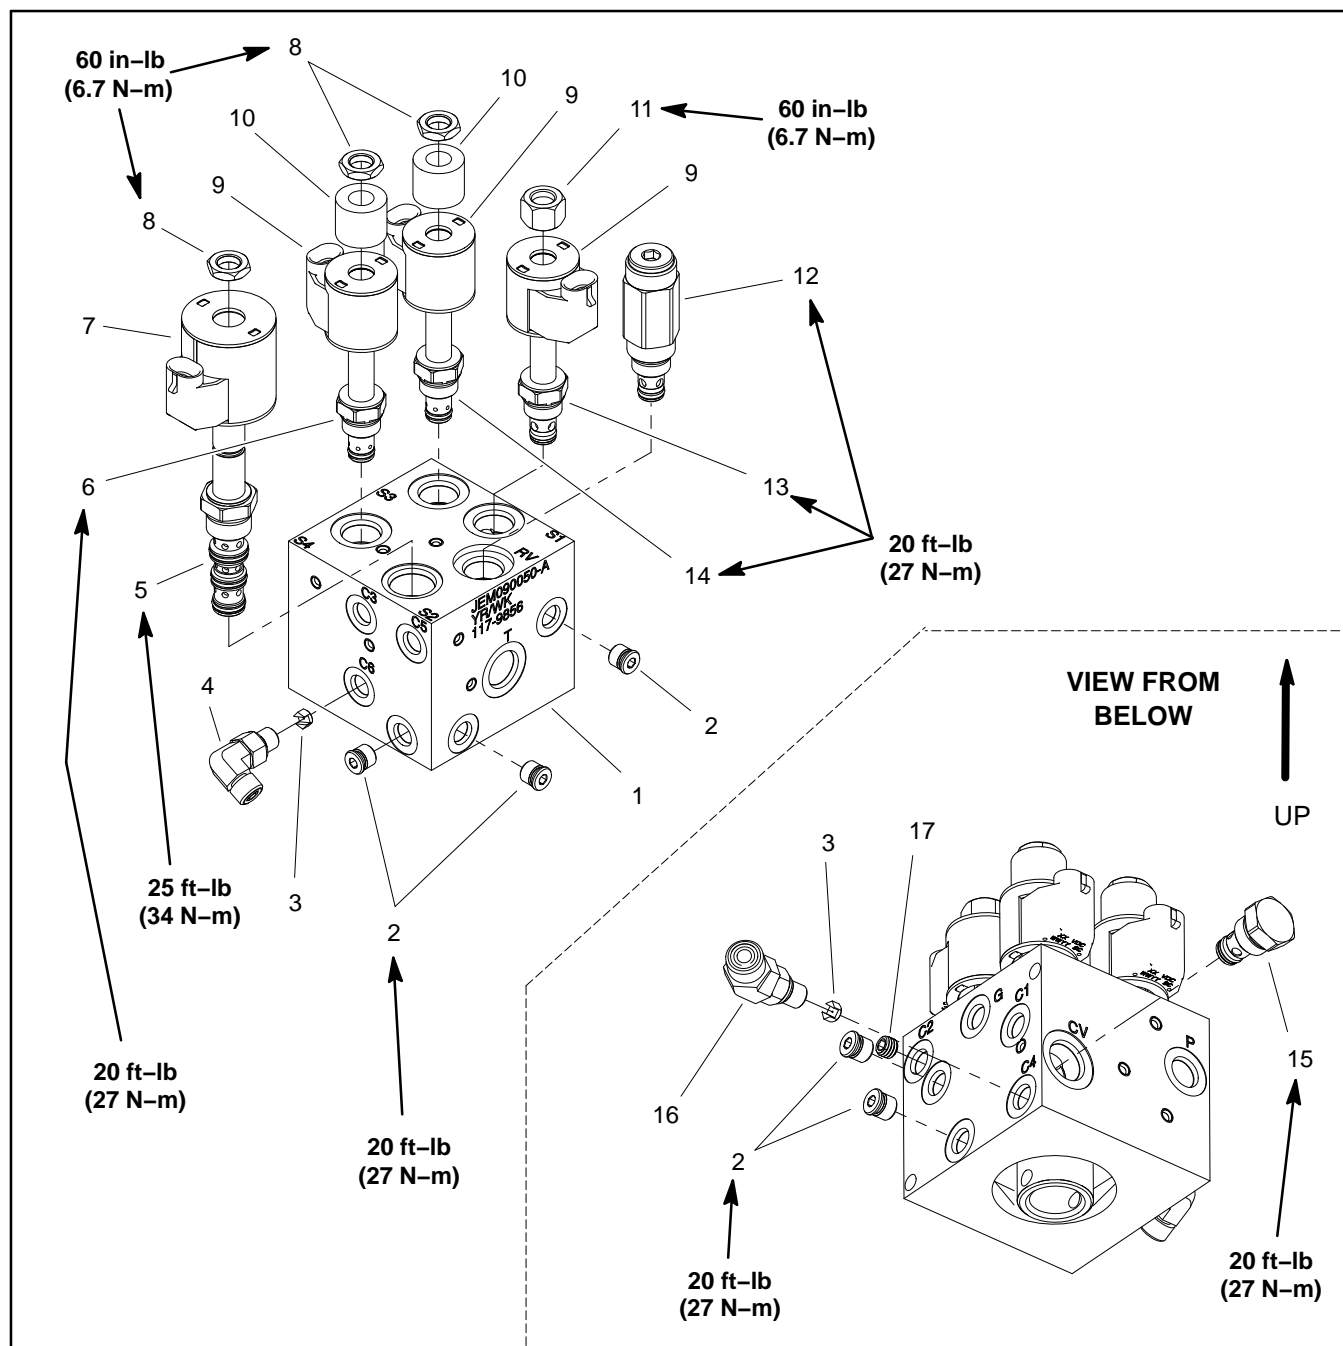

Figure 71
**NOTE:** The hydraulic manifold shown in Figure 71 uses several zero leak plugs. These plugs have a tapered sealing surface on the plug head that is designed to resist vibration induced plug loosening. The zero leak plugs also have an O-ring to provide a secondary seal. If zero leak plug removal is necessary, lightly rap the plug head using a punch and hammer before using an allen wrench to remove the plug; the impact will allow plug removal with less chance of damage to the socket head of the plug. When installing plugs into the manifold, torque plugs to the values identified in Figure 71.
For cartridge valve service procedures, see Control Manifold Cartridge Valve Service in this section. Refer to Figure 71 for lift manifold cartridge valve and plug installation torque.